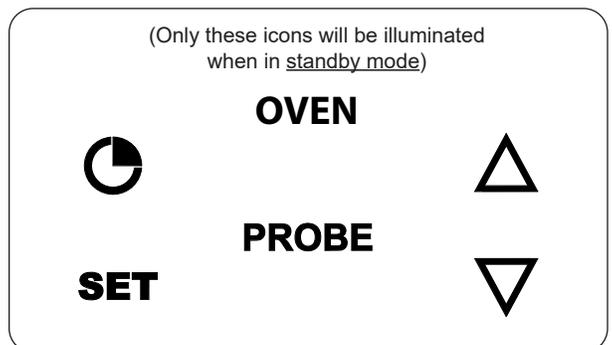

Fig. 38-3 Standby mode
**Standby Mode:** If the oven ambient temperature remains at 170°F or higher, the digital thermometer will continue operating. If the ambient temperature remains below 170°F, and there is no user input for a duration of 10 minutes, the digital thermometer will automatically transition into “Standby Mode”. See Fig. 38-3.